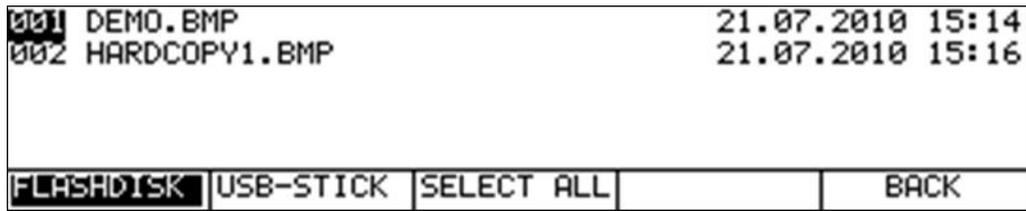

Figure 10-3 Directory FLASHDISK
- Figure 10-3 Directory FLASHDISK 58